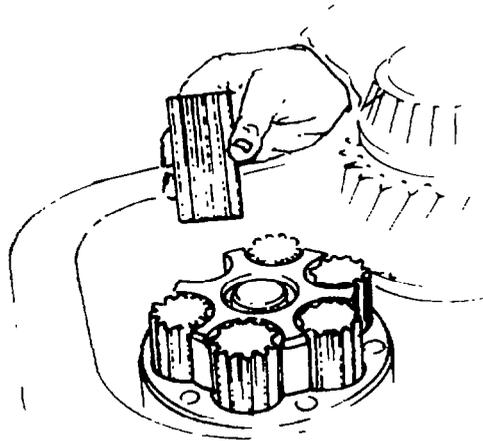

Fig. 229 — Removing Planetary Gears
- u. Remove the six planet gears from the planet gear cage (see fig. 229).